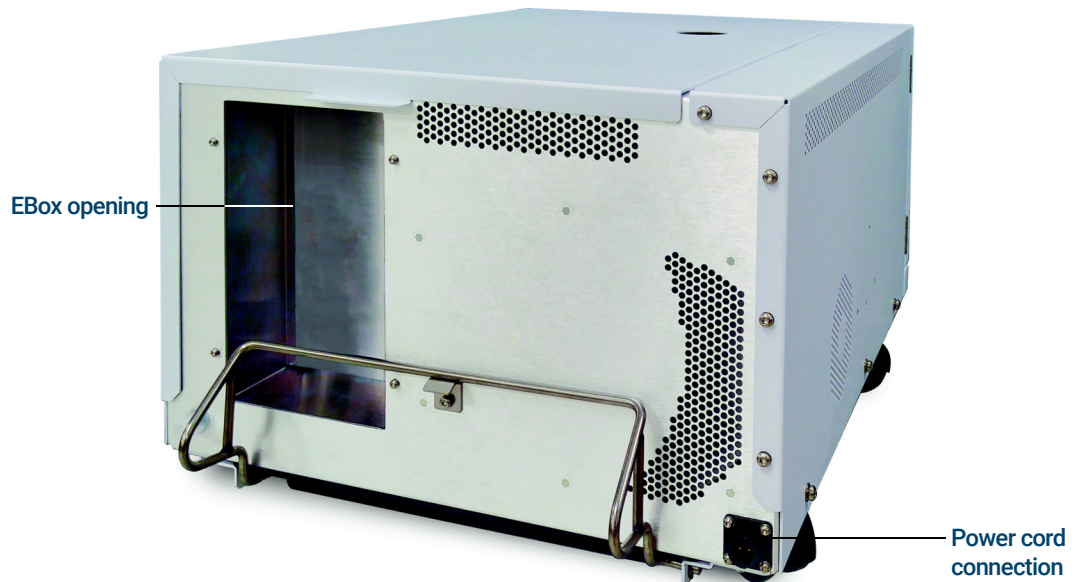

Figure 8. Pump power cord
- 4 Connect the pump power cord to the rough pump through the EBox opening (Figure 8).
- 5 Set the power switch to the On position through the EBox opening (Figure 8 on page 17).